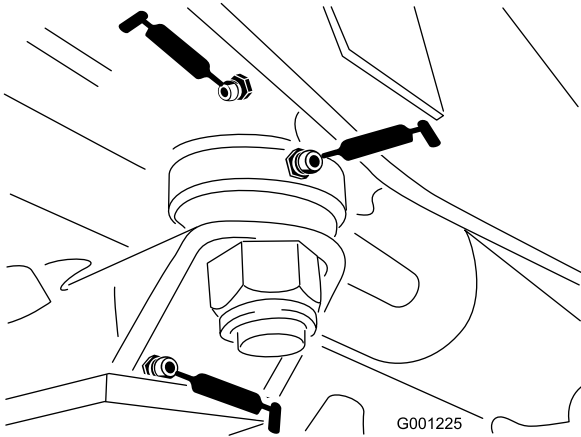

Figure 43
- Steering-plate bushings (Figure 43)
- Axle-pin bushing (Figure 43)